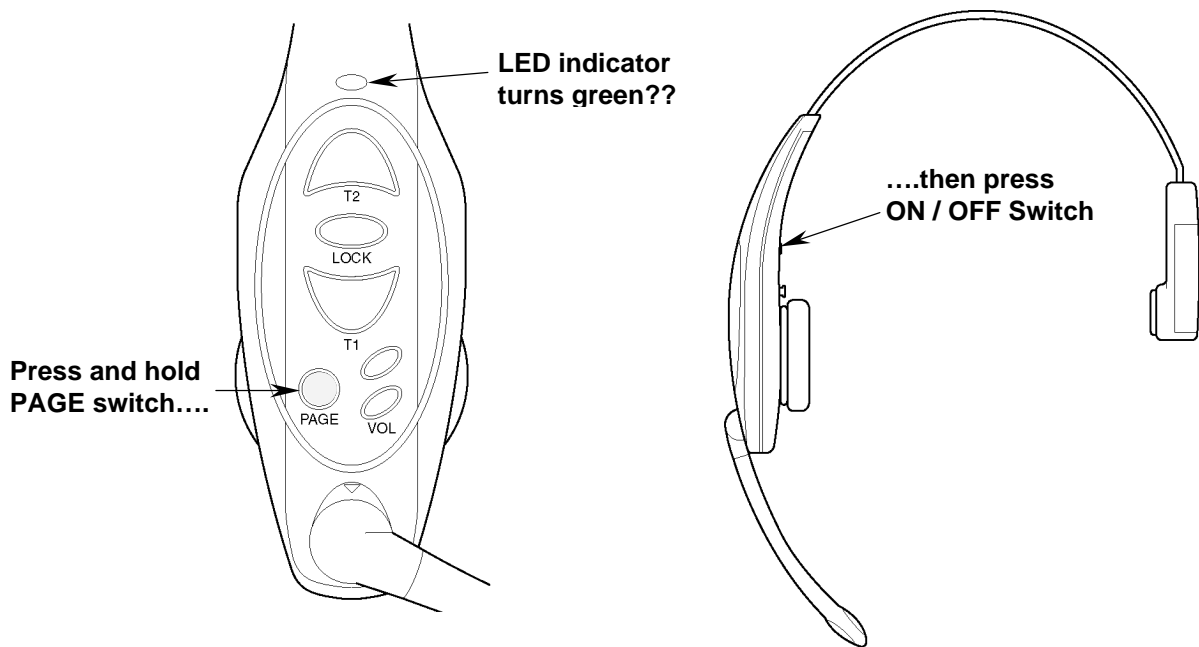

Figure 10. Page Switch and On / OFF Switch
2. While pressing and holding the page switch, turn the headset ON. This locks the headset in the page monitor mode. See Figure 10.